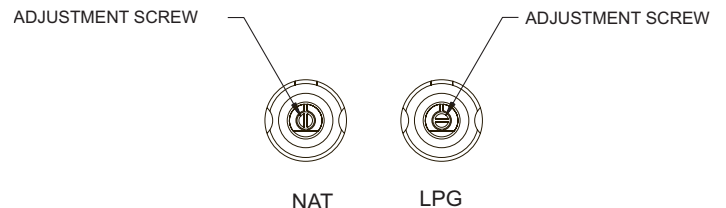

Figure 34
7. The low input adjustment screws are located inside the two valve stems. Use a small screwdriver to turn each adjustment screw clockwise 1/4 turn (90 degrees). When valves are in the "OFF" position, the slot in the adjustment screw should be vertical. **See Figure 34.**